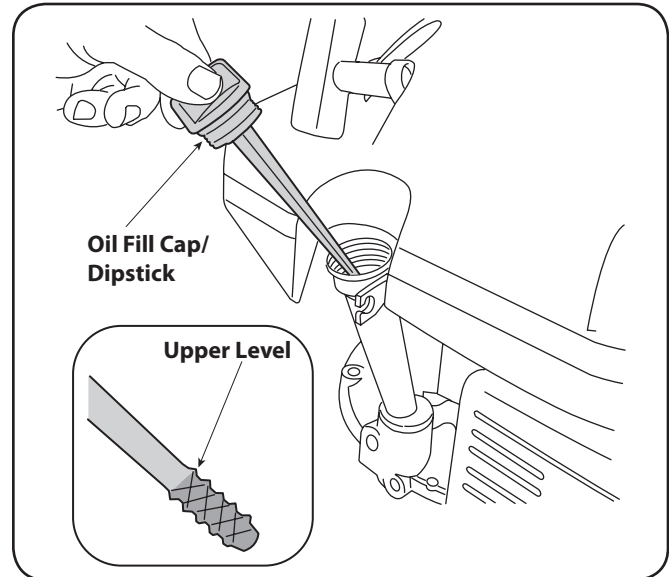

Figure 3-2
1. Remove the oil filler cap/dipstick and wipe the dipstick clean. See Figure 3-2.
3. Remove the oil filler cap/dipstick. If the level is low, slowly add oil until oil level registers between high (H) and low (L), Figure 3-2.
3. Remove dipstick. If the level is low, slowly add oil to the upper limit on the dipstick. See Figure 3-2 inset.